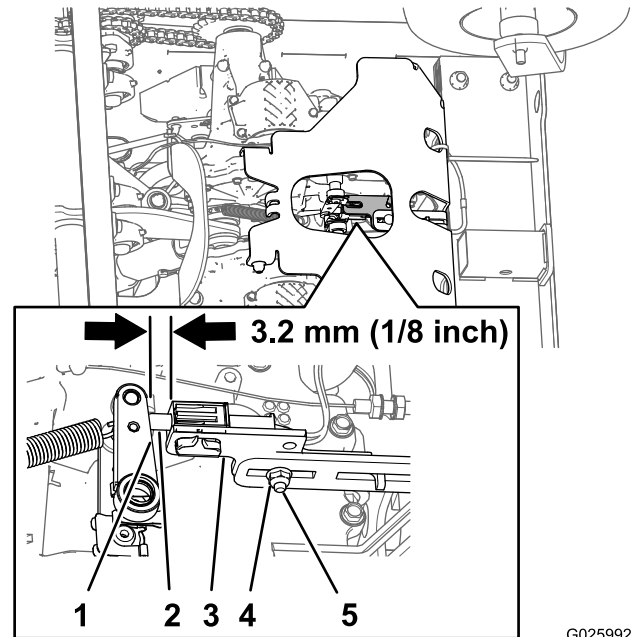

Figure 49
5. Check the distance between the parking brake-switch bracket to the brake arm of the transmission (Figure 49).
- A. Loosen the lock nut and carriage bolt securing the parking brake switch bracket (Figure 49).
- B. Adjust the position of the brake-switch bracket until the gap (Figure 49) between the switch bracket and the brake arm is 3.2 mm (1/8 inch)
- C. Tighten the lock nut and carriage bolt (Figure 49) securing the brake-switch bracket to 1017 to 1243 N-cm (90 to 110 lb-in).